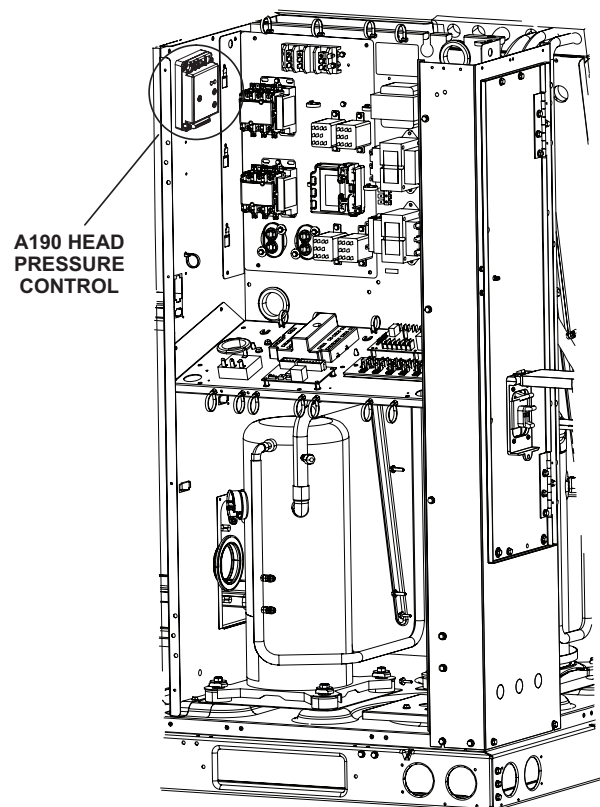

FIGURE 1
- 2 - Install the head pressure control in the control section as shown in figure 1. Secure with self-tapping screws (provided).